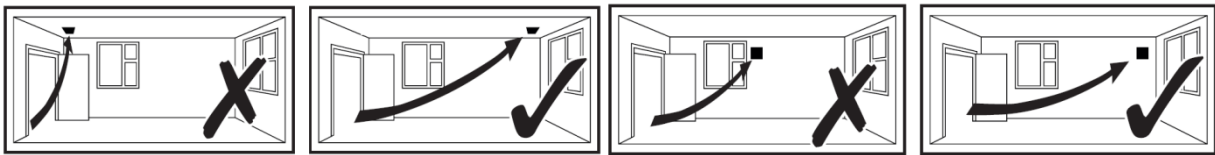

Fig.1: VASF100B, VASF100BV
1. Select and follow the appropriate wiring diagram. (Fig. 1 or 2)
Fixed Speed Range – Fig1, 2, 3, 4 & 5
Lo-Carbon Variable Speed Range – Fig1, 2, 3 & 6
Lo-Carbon Continuous Running Range – Fig1, 2, 3 & 6